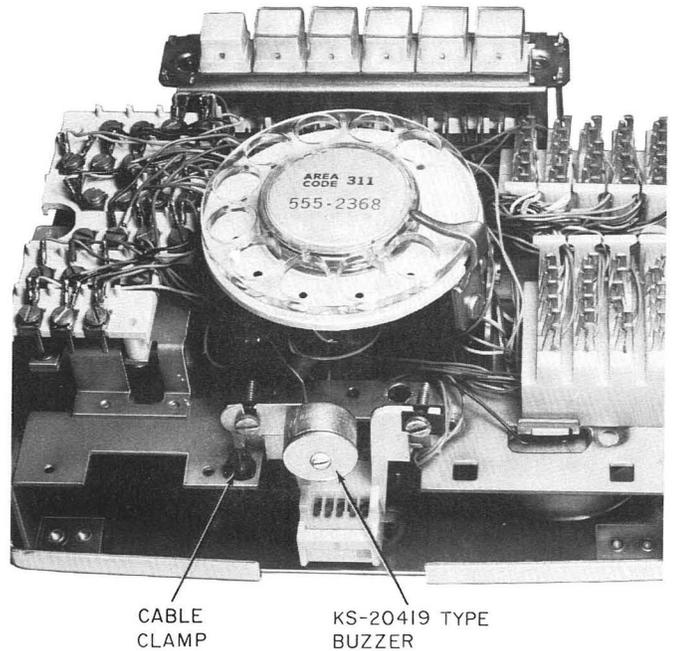

Fig. 18—KS-20419 Type Buzzer Mounted on 851-Type Telephone Set
- (2) Remove cable clamps. Pinch legs of clamp from front of chassis (Fig. 18).
- (3) Slip one of the clamps provided with set around conductors approximately 9 inches from end of sheath. Add second clamp 2 inches above first.
3.16 Buzzer: The KS-20419L1 or L2 buzzer is mounted on an insulated bracket below the dial (Fig. 18). If required, an additional KS-20419 type may be added or the existing KS-20419 type may be replaced by the KS-8109L2 buzzer (14-30 volt ac or dc) which would be mounted using both screws.